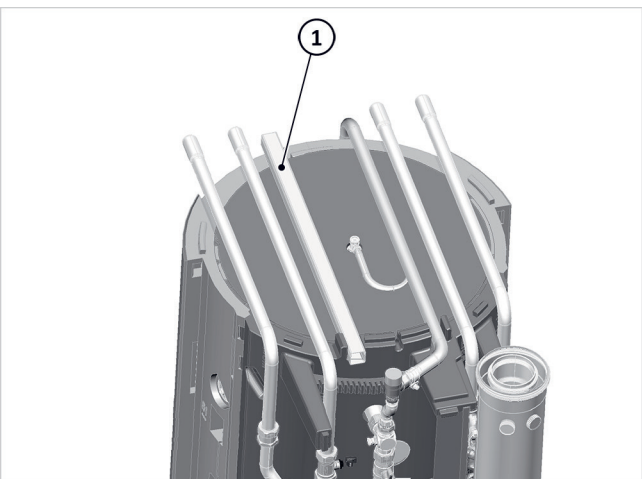

Fig. 8: Cable routing duct
1. Route the Modbus line of the junction box through the cable routing duct → Fig. 8 (1) in the cover area.